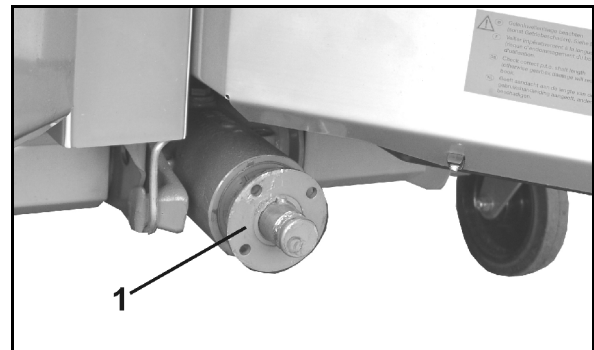

Fig. 24
1. Use an extractor to pull the flange bushing (Fig. 24/1) from the gearbox input shaft.